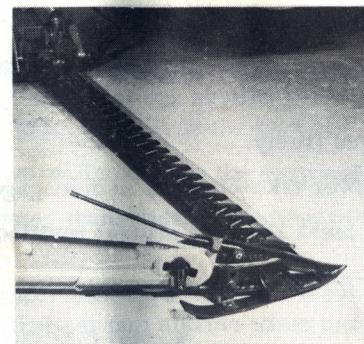

Fig. 19
- Attach the fender rod, see Fig. 19. Bend the rod inwards somewhat.